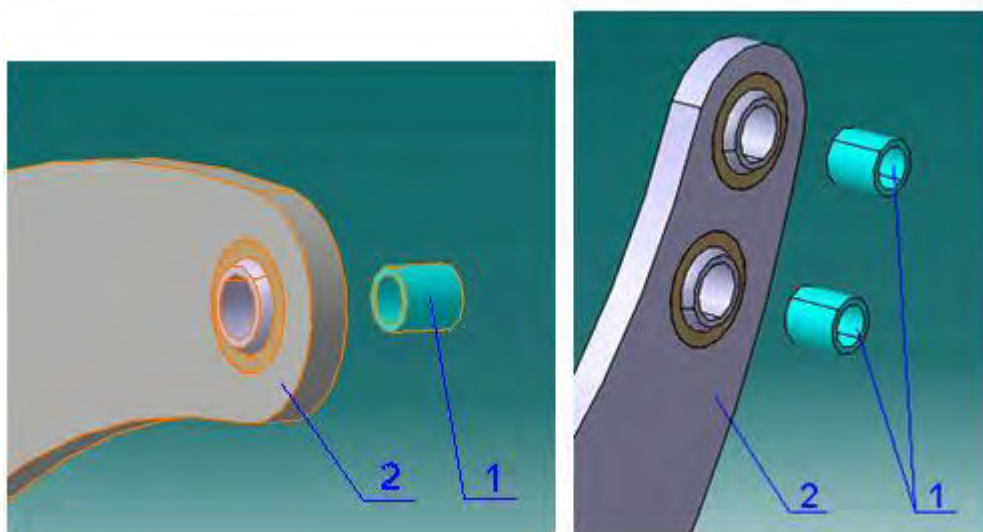

Fig. 1
Check if there is KA2010008 bushing (1) in the wing brackets (2) (KW2010010, KW2010020 and KW2010030 for the right wing, and KW2020010, KW2020020 and KW2020030 for the left wing), Fig. 1.